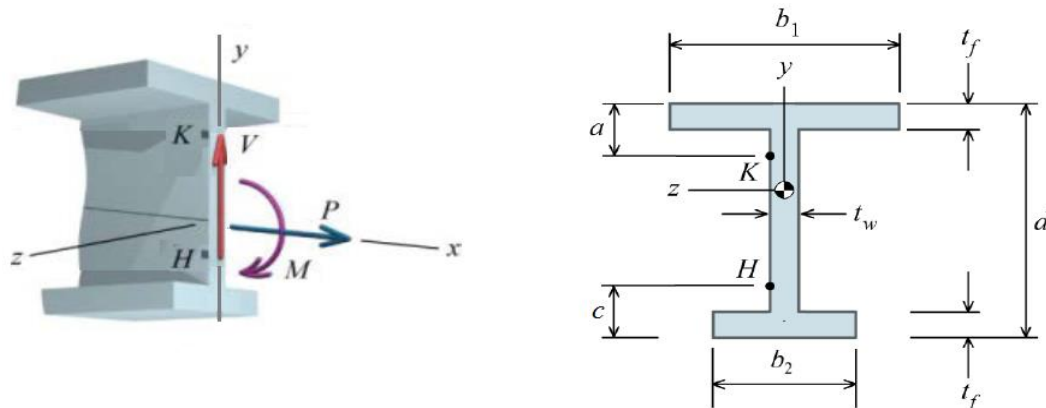

Figure 1.
A flanged-shaped flexural member is subjected to an internal axial force (P) of 18 kN, an internal shear force (V) of 32 kN, and an internal bending moment (M) of 7.2 kNm as shown in **Figure 1** below. The cross-sectional dimensions of the shape as shown in **Figure 1** are $d = 106$ mm, $b_1 = 90$ mm, $b_2 = 48$ mm, $t_f = 8$ mm, $t_w = 8$ mm, $c = 32$ mm and $a = 24$ mm. Determine the principal stresses and the maximum shear stress acting at points H and K. Show these stresses on an appropriate sketch for each point.